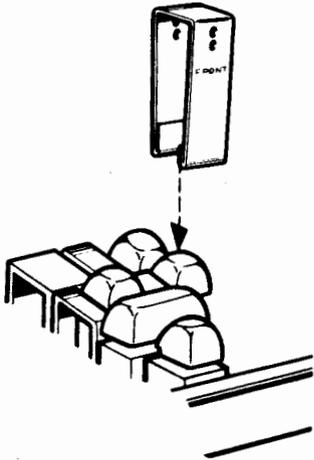

Fig. 10—Data Keytop Removal
- (b) To remove the data keytops, place 420204 tool over keytop and pull up to remove (Fig. 10).